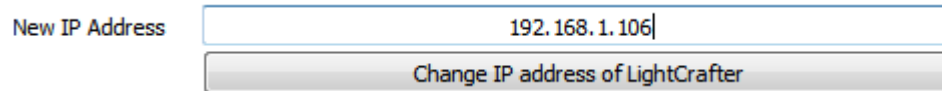

Figure 2-20. DLP LightCrafter GUI Connection New IP Address Textbox
3. Change the last three digits of the IP address in the "New IP Address" textbox. See Figure 2-20.